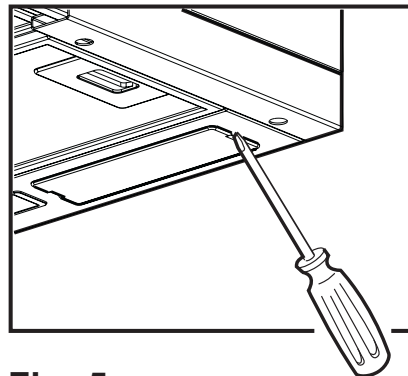

Fig. 5
- Remove the lamp cover carefully, use a screw driver as a lever. **Fig. 5.**